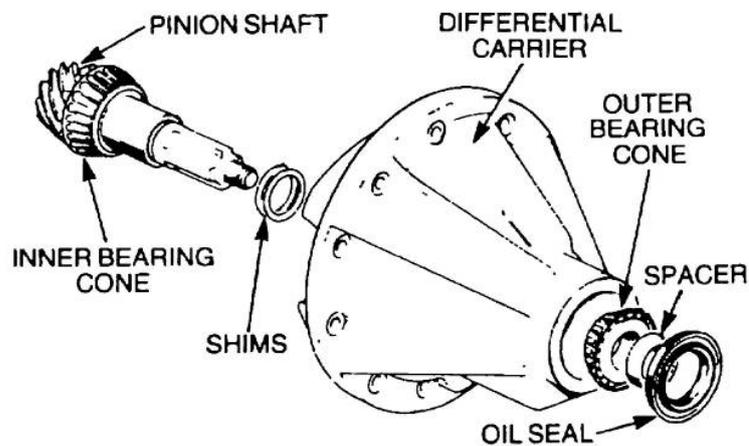

Figure 251 Removal of the Pinion Shaft and Bearings
- e. Remove the pinion shaft complete with the inner bearing cone and shims. Remove the oil seal, spacer and outer bearing cone (Figure 251). Do not discard the shims.